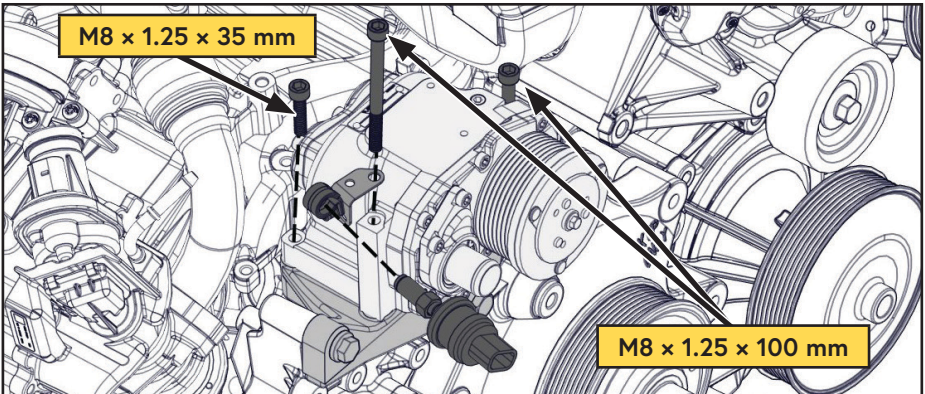

Figure 18 — Mount compressor
- Using the remaining M8 × 1.25 × 100 mm fastener, and the M8 × 1.25 × 35 mm fastener, install the pressure switch and compressor onto the VMAC main bracket (Figure 18).